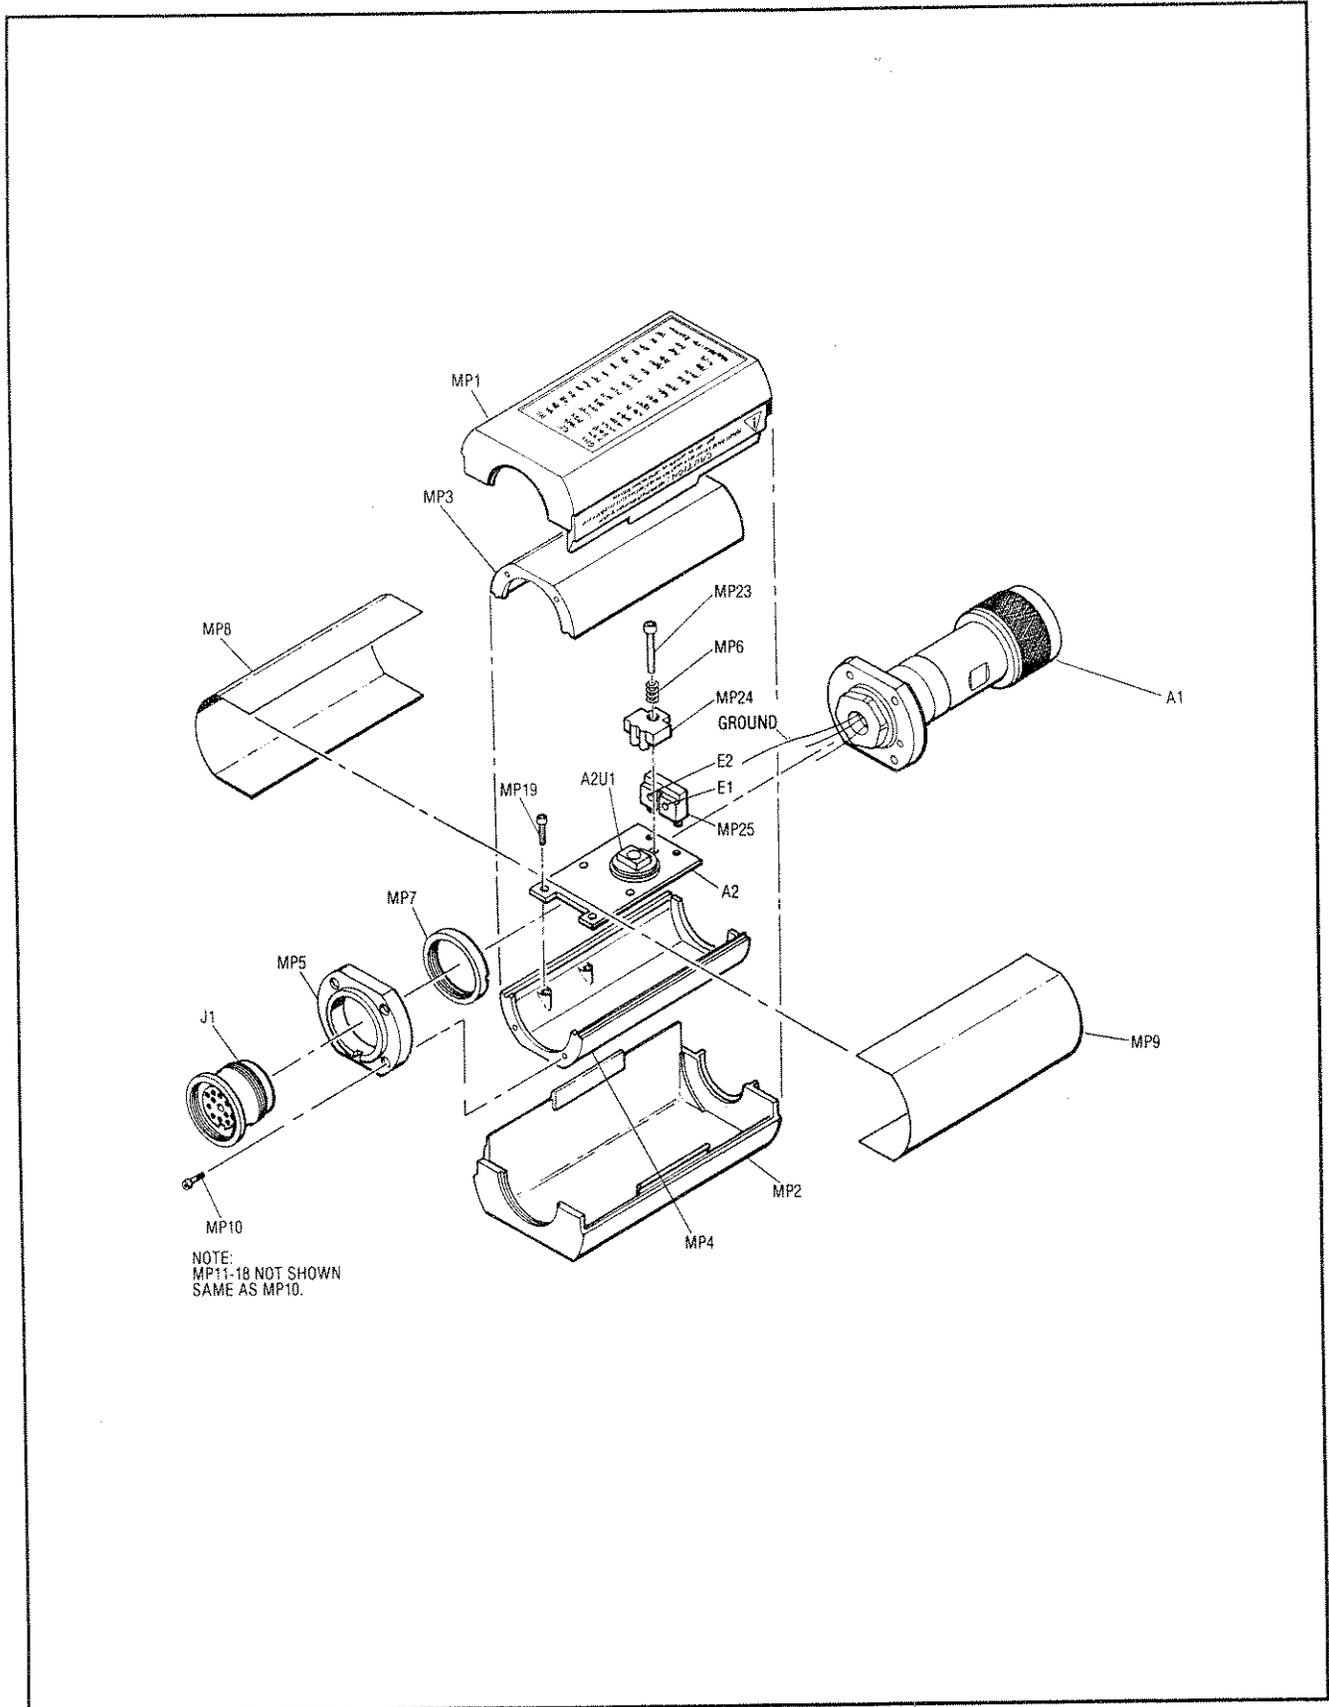

Figure 3. Illustrated Parts Breakdown
Table 5 is a list of replaceable parts. Figure 3 is the illustrated parts breakdown (IPB) that identifies the major locations of the components on the A2 Input Amplifier Assembly are shown in Figure 4. To order a part, quote the Hewlett-Packard part number and Check Digit (CD), specify the quantity required, and address the order to the nearest Hewlett-Packard office.